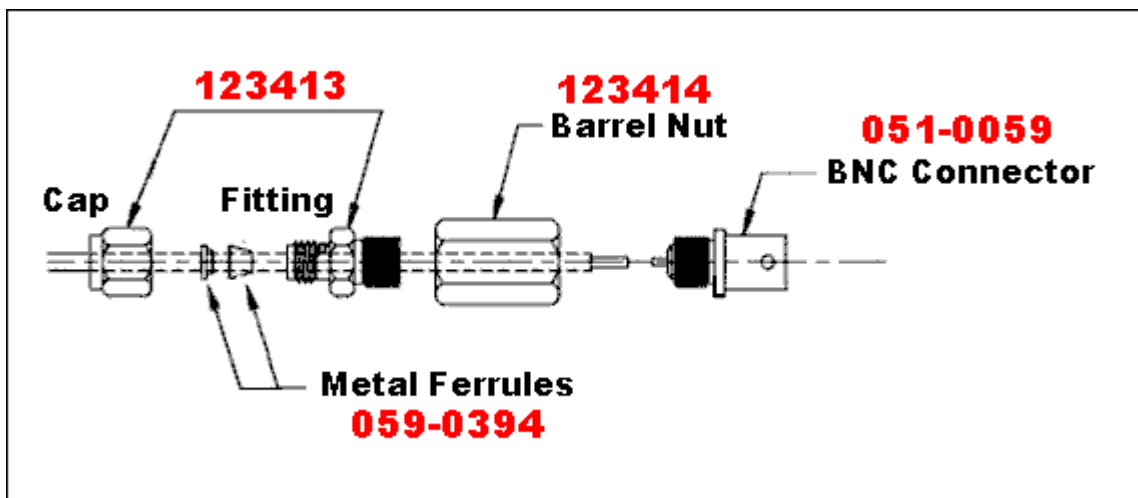

Figure 1: Assembly Exploded View
1. Remove the Cap from the Fitting by holding the Fitting stationary with a wrench and turning the Cap counter-clockwise with a wrench. (See Figure 1)
3. Slide the assembled Cap, Ferrules, Fitting, and Barrel Nut over the tube. (See Figure 1.)